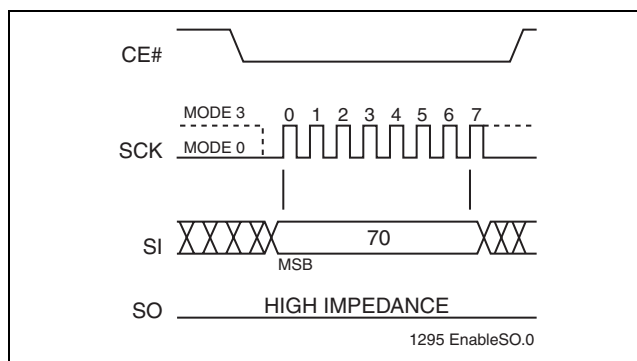

FIGURE 7: ENABLE SO AS HARDWARE RY/BY# DURING AAI PROGRAMMING
The hardware end-of-write detection method eliminates the overhead of polling the Busy bit in the Software Status Register during an AAI Word program operation. The 8-bit command, 70H, configures the Serial Output (SO) pin to indicate Flash Busy status during AAI Word programming. (see Figure 7) The 8-bit command, 70H, must be executed prior to executing an AAI Word-Program instruction. Once an internal programming operation begins, asserting CE# will immediately drive the status of the internal flash status on the SO pin. A "0" indicates the device is busy and a "1" indicates the device is ready for the next instruction. De-asserting CE# will return the SO pin to tri-state.